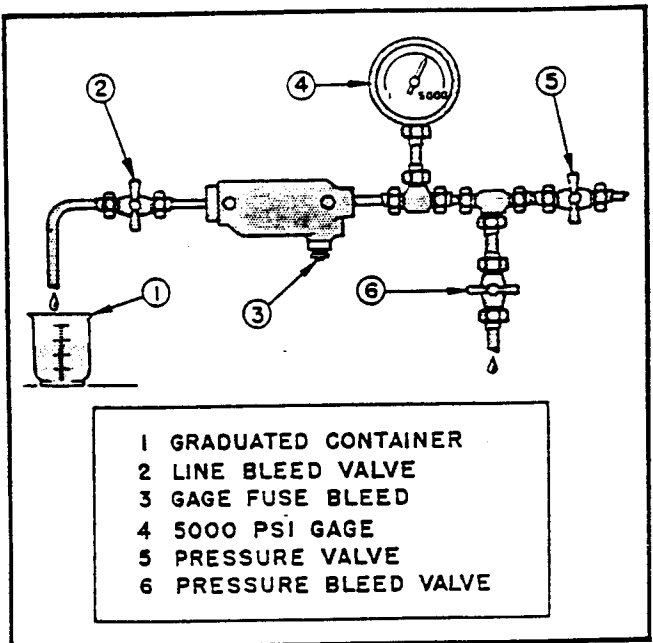

Figure 20. Gage Line Fuse Test Set-Up
1. Make test set-up as shown in figure 20.